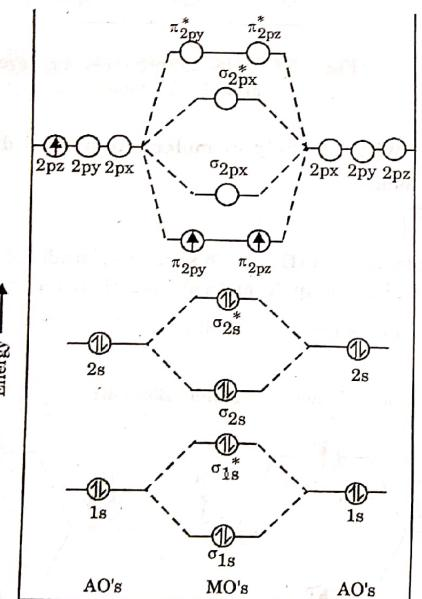

Fig. 1.5.1. Molecular orbital energy level diagram for B_2 molecule.
- For the formation of B_2 molecule, two B atoms are required. Its electronic configuration is : $1s^2 2s^2 2p^1$. The filled molecular orbitals in B_2 molecule are shown in Fig. 1.5.1.